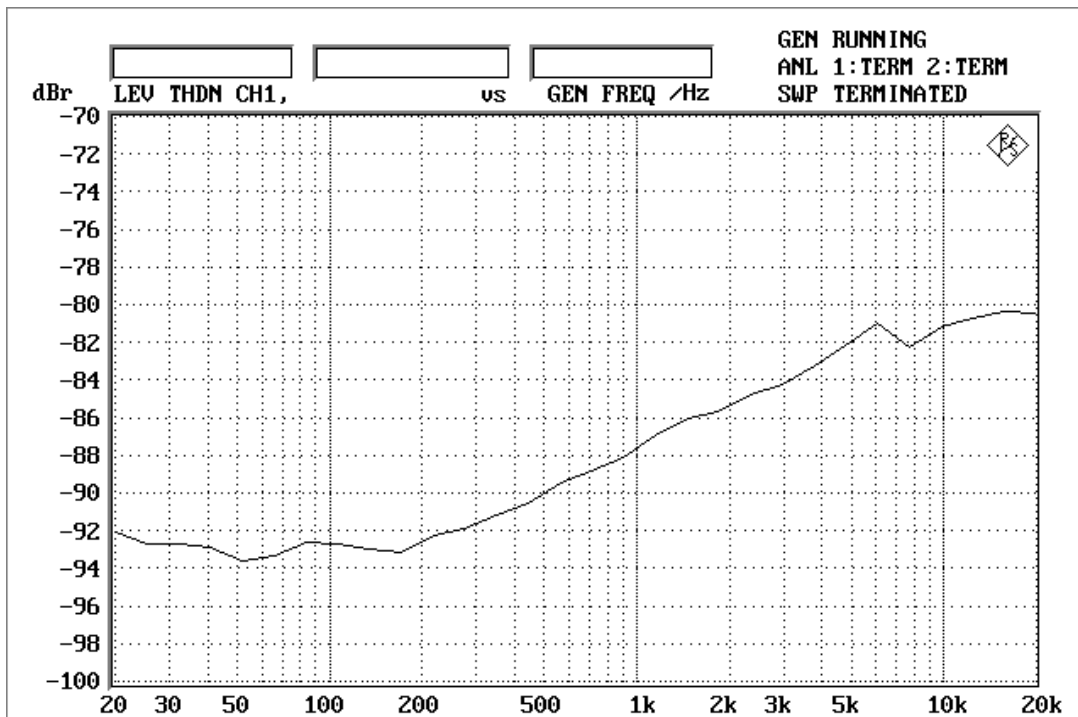

Figure 1-1-2. THD+N vs. Input frequency
- Figure 1-1-2. THD+N vs. Input frequency